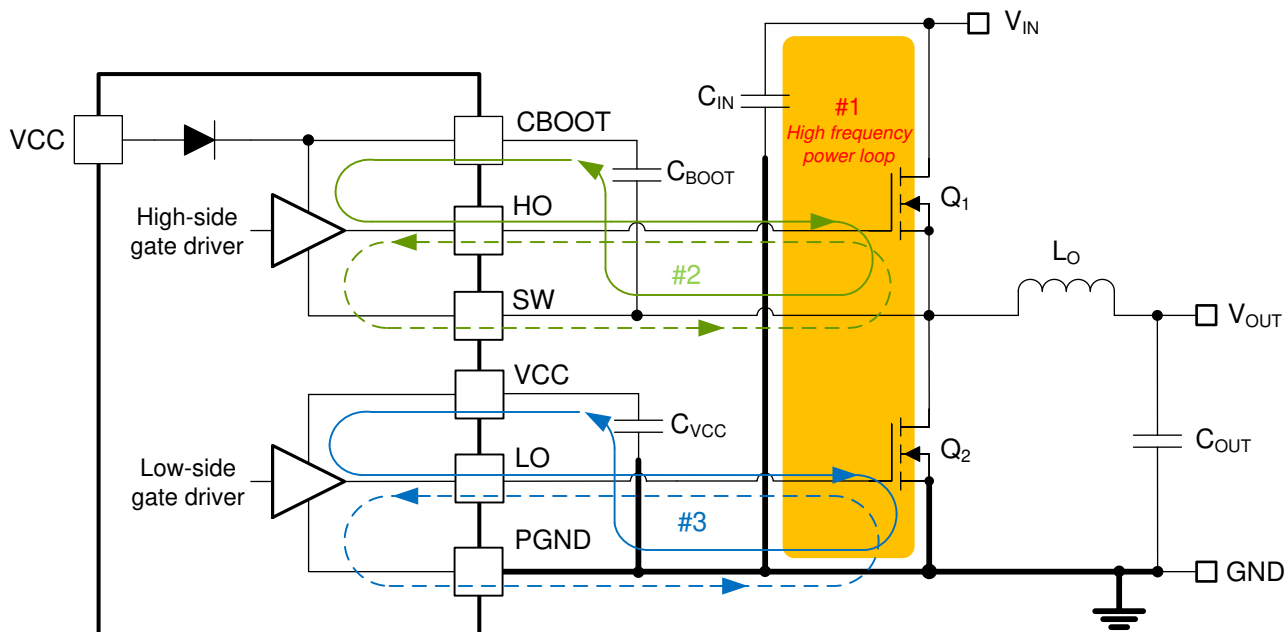

Figure 9-35. DC/DC Regulator Ground System With Power Stage and Gate Drive Circuit Switching Loops
Proper PCB design and layout is important in a high-current, fast-switching circuit (with high current and voltage slew rates) to achieve a robust and reliable design. As expected, certain issues must be considered before designing a PCB layout using the LM25148-Q1. The high-frequency power loop of a buck regulator power stage is denoted by loop 1 in the shaded area of Figure 9-35. The topological architecture of a buck regulator means that particularly high di/dt current flows in the components of loop 1, and reducing the parasitic inductance of this loop by minimizing the effective loop area becomes mandatory. Also important are the gate drive loops of the high-side and low-side MOSFETs, denoted by 2 and 3, respectively, in Figure 9-35.
- Loop 1: The most important loop area to minimize is the path from the input capacitor or capacitors through the high- and low-side MOSFETs, and back to the capacitor or capacitors through the ground connection. Connect the input capacitor or capacitors negative terminal close to the source of the low-side MOSFET (at ground). Similarly, connect the input capacitor or capacitors positive terminal close to the drain of the high-side MOSFET (at VIN). Refer to loop 1 of Figure 9-35.
- The SW pin connects to the switch node of the power conversion stage and acts as the return path for the high-side gate driver. The parasitic inductance inherent to loop 1 in Figure 9-35 and the output capacitance (C_{OSS}) of both power MOSFETs form a resonant circuit that induces high frequency (greater than 50 MHz) ringing at the SW node. The voltage peak of this ringing, if not controlled, can be significantly higher than the input voltage. Make sure that the peak ringing amplitude does not exceed the absolute maximum rating limit for the SW pin. In many cases, a series resistor and capacitor snubber network connected from the SW node to GND damps the ringing and decreases the peak amplitude. Provide provisions for snubber network
- Loop 2: high-side MOSFET, Q₁. During the high-side MOSFET turn-on, high current flows from the bootstrap (boot) capacitor through the gate driver and high-side MOSFET, and back to the negative terminal of the boot capacitor through the SW connection. Conversely, to turn off the high-side MOSFET, high current flows from the gate of the high-side MOSFET through the gate driver and SW, and back to the source of the high-side MOSFET through the SW trace. Refer to loop 2 of Figure 9-35.
- Loop 3: low-side MOSFET, Q₂. During the low-side MOSFET turn-on, high current flows from the VCC decoupling capacitor through the gate driver and low-side MOSFET, and back to the negative terminal of the capacitor through ground. Conversely, to turn off the low-side MOSFET, high current flows from the gate of the low-side MOSFET through the gate driver and GND, and back to the source of the low-side MOSFET through ground. Refer to loop 3 of Figure 9-35.